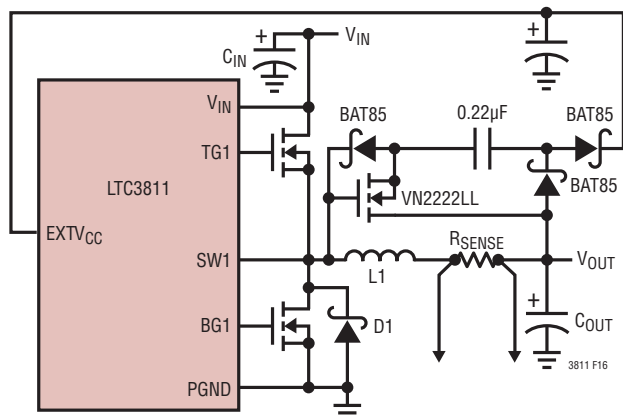

Figure 16. Capacitive Charge Pump for EXTVCC
3. EXTV_{CC} connected to an output-derived boost network. For 3.3V and other low voltage regulators, efficiency gains can still be realized by connecting EXTV_{CC} to an output-derived voltage which has been boosted to greater than 4.5V but less than 7V. This can be done with a capacitive charge pump shown in Figure 16.
The optional Schottky diode, D1, shown in Figure 16 conducts during the dead-time between the conduction of the two power MOSFETs. This prevents the body diode of the bottom MOSFET from turning on, storing charge during the dead-time and requiring a reverse recovery period that could cost as much as 1% in efficiency at high V_{IN} . A 1A to 3A Schottky is generally a good compromise for both regions of operation due to the relatively small average current. Larger diodes result in additional transition losses due to their larger junction capacitance.